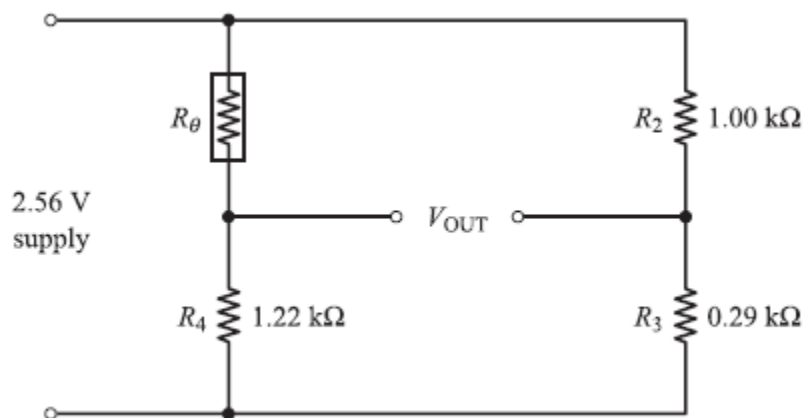

Fig. 2
The thermistor is incorporated into the deflection bridge circuit shown in Fig. 2
- (i) Design filter in Figure 2 such that the resonance frequency  $\omega_o = 1000 \text{ rad/sec}$ ,
- (iii) Hence, modify Figure 2 so that the above filter has the Butterworth response such that  $|H(j\omega_0)| = 1$  or 0 dB.